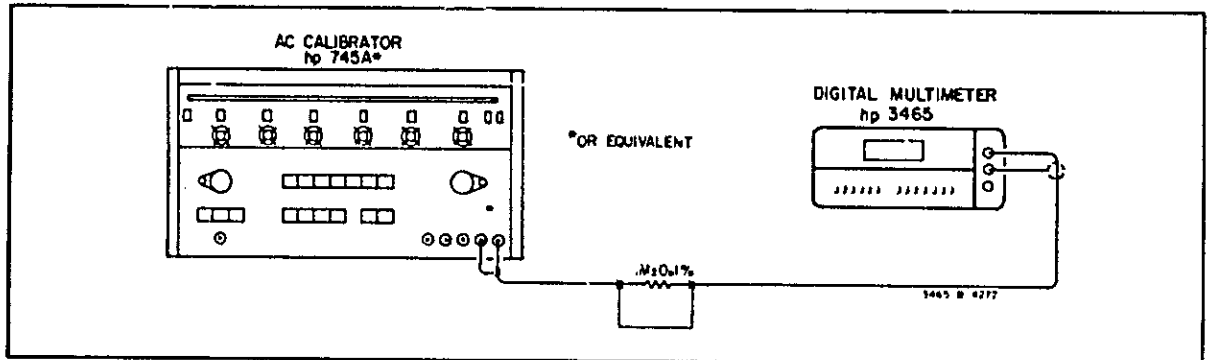

Figure 5-8. AC Voltmeter Input Impedance Test.
- a. Connect the AC Calibrator and a $1\text{ M}\Omega$ resistor as shown in Figure 5-8. Connect a jumper across the resistor.